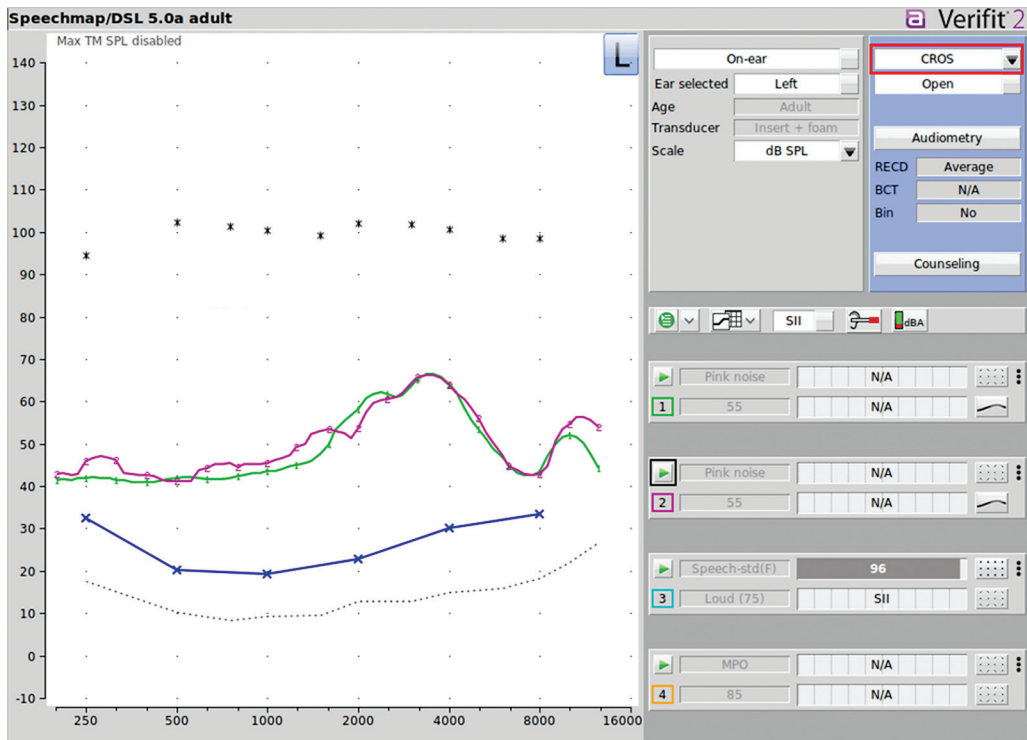

Figure 19 CROS verification.
9. Select the **green arrow** above Test 2 and select Pink Noise (55 dB). Click the **red circle** to capture the recording (Figure 19).